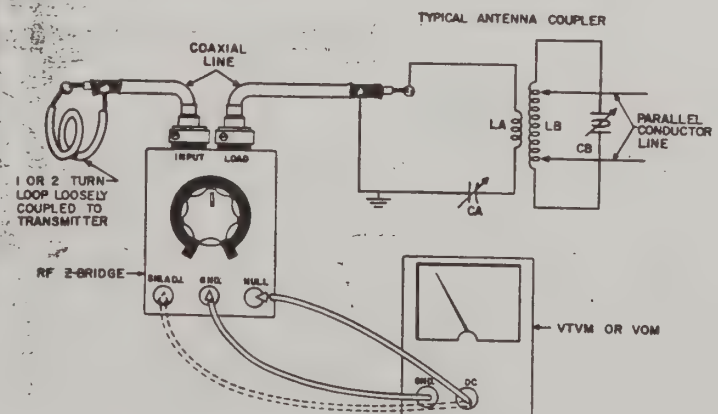

FIGURE 9. TYPICAL SET-UP USING AN ANTENNA COUPLER
SEE FIGURE 9.
9. Adjust Ca, Cb, and the taps on the antenna coupler (See Figure 9) until the best possible null is obtained. This adjustment provides the best match between the transmission line and the transmitter. To get the broadest frequency response, try to obtain the null with Ca near maximum and with the taps on Lb as far apart as possible. Keep the taps equidistant from the center.